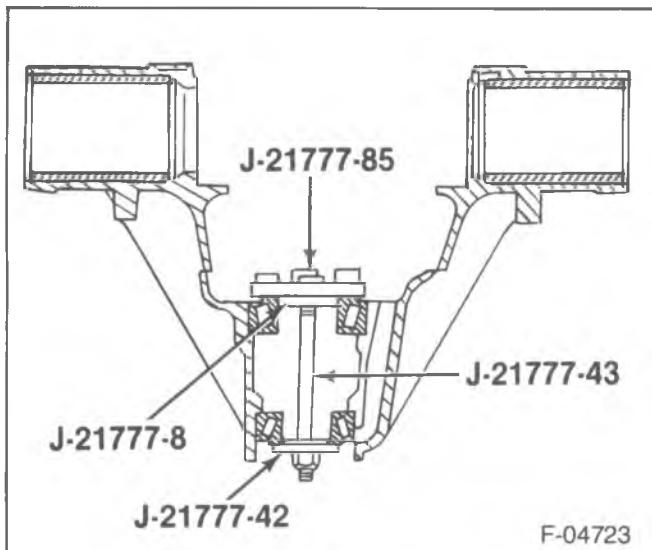

Figure 52—Gage Plate Components
3. Place the bearings (10) and (13) into the pinion bearing cups.
4. Install J-21777-8, J-21777-42, J-21777-85 and J-21777-43 to the pinion bore (figure 52).